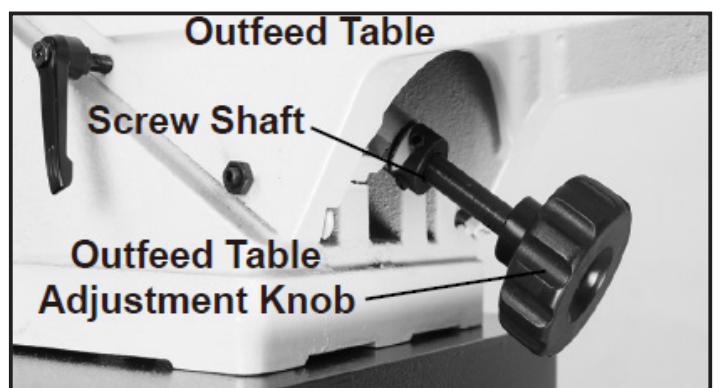

FIG.5.8
- Insert the Outfeed Table Adjustment Knob onto the square receiver of the Table Adjustment Screw Shaft located under the Outfeed Table. Secure using the Allen Cap Screw M6 x 12mm and 6mm Flat Washer. FIG. 5.8